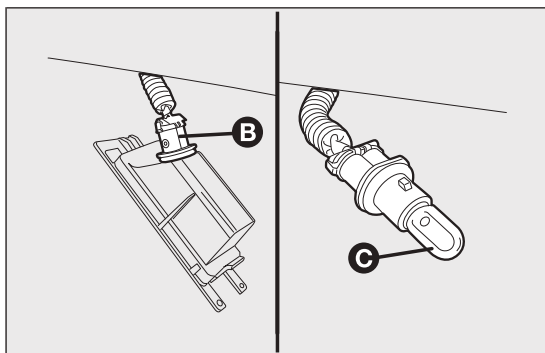

fig. 155
- turn the bulb holder B fig. 155 clockwise;